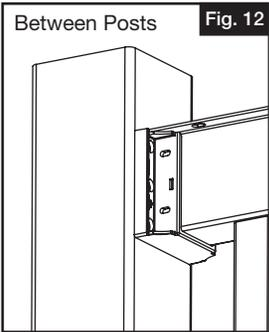

Fig. 12
- i. Make sure rails are fully seated with balusters and level and centered to post sleeve. While holding the top bracket snug to rail from underneath, and using  $\frac{1}{8}$ " drill bit, pre-drill first top bracket screw hole (Fig. 12 & 13). Drill through bracket hole, vinyl post sleeve and vinyl insert and loosely install first #10 x  $1\frac{1}{2}$ " screw.
- ii. Repeat pre-drilling process for remaining three screws (Fig. 12 & 13).